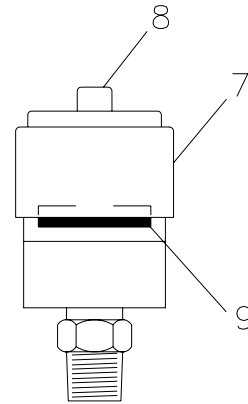

Fig. 5.3 Vacuum indicator
1. Release the snap clips (1) and remove the dust trap (2). Clean the trap.
2. Remove the element (3) from the housing (5). If the element is to be serviced for immediate re-use, reinstall the dust trap to protect the air intake system while cleaning the element.
5. Reset the vacuum indicator by pushing the reset button (8- Fig. 5.3).